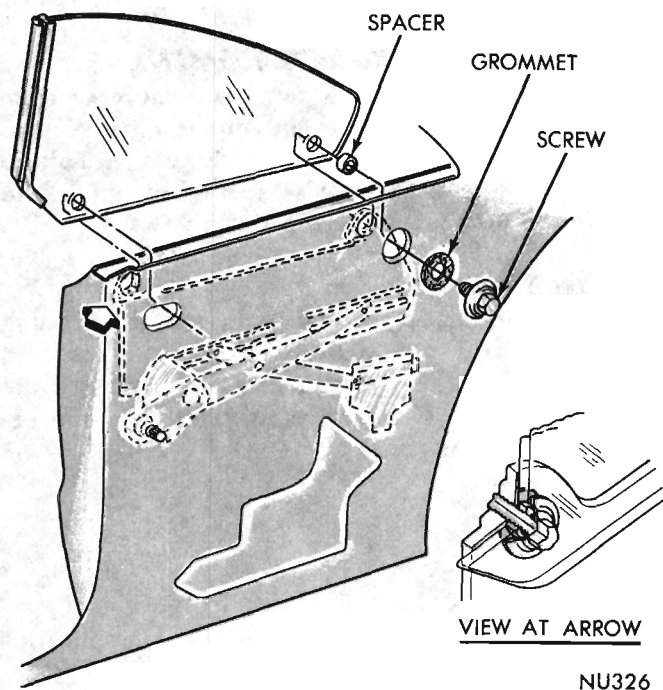

Fig. 35 - Glass Replacement
- (1) Align glass lower frame to glass attaching screws with access holes in quarter inner panel (Fig. 35).
- (2) Support glass, remove lower frame to glass attaching screws and remove glass assembly from panel.
- (3) Remove spacers from openings in glass.